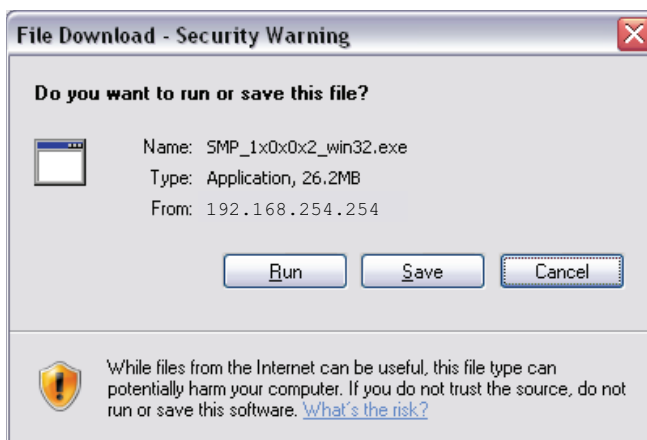

Figure 34. File Download Security Warning
5. When the file download dialog appears, click **Run** to begin the download (see figure 34).